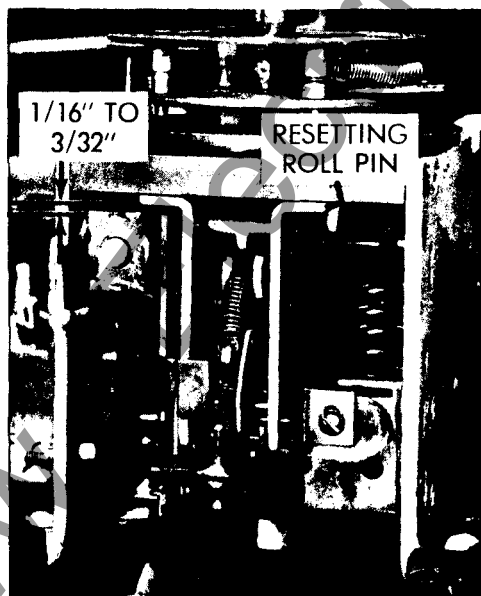

Fig. 4. View, left side mounting
- b. Place the shunt trip device inside the breaker mechanism frame, as shown in Fig. 4 or 5.
- d. Position unit to provide 1/16-inch to 3/32-inch gap, as shown in Fig. 4, or 5 (as applicable) and tighten screws to 15-inch pounds torque.